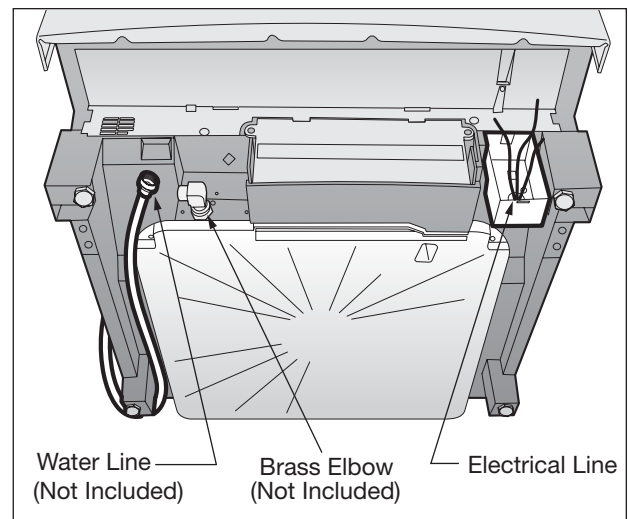

Figure 2-2. Component Location
(See Figure 2-2)
4. Wrap 90° elbow (not included) with pipe thread tape (or apply joint compound) and thread it into water inlet valve. When tightened, elbow should point toward the left. To prevent bending of bracket or breaking of valve, avoid over tightening. (See Figure 2-2)
2. Locate the electrical supply and the dishwasher's electrical junction box on right underside of unit behind kickplate assembly. (See Figure 2-2.)
3. Determine where you will connect to household hot water supply. Review Figure 2-2 and note the location of water inlet valve. Determine where you will connect the drain hose.
2. Route water line to water inlet valve as shown in Figure 2-2.